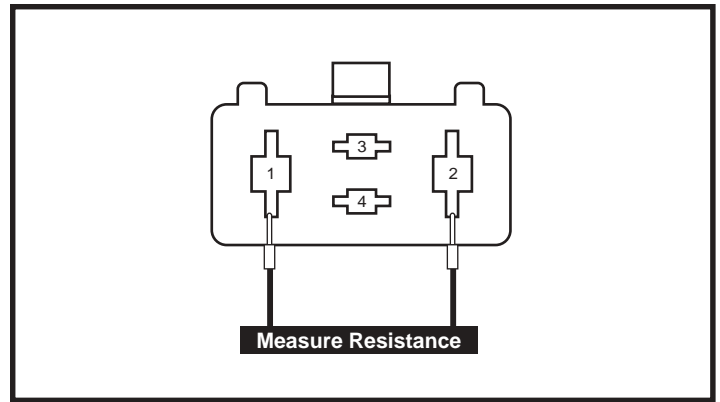

Figure 18. Connector 8a
2. Measure resistance from pin 1 to pin 2 on connector 8a. **See figure 18.**